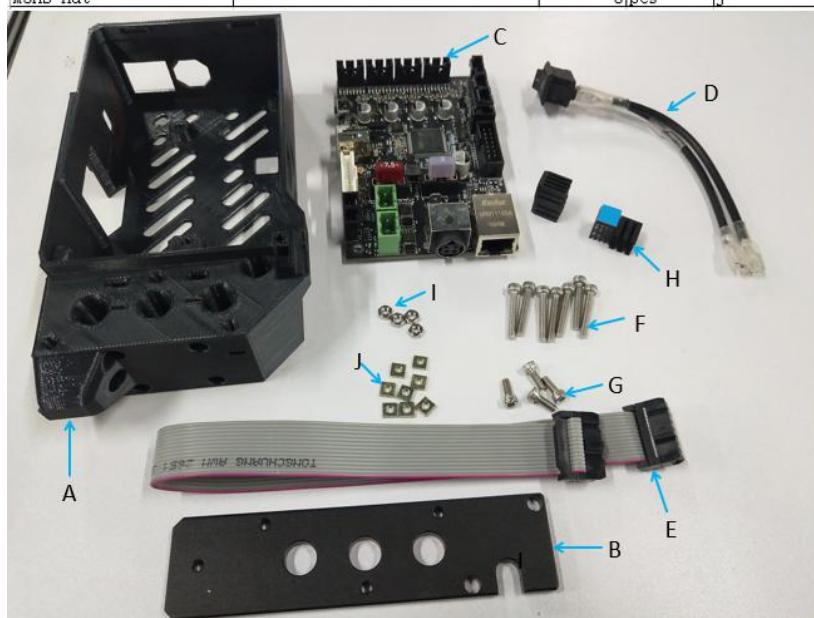

Figure 3.2.1
**Step 3-2-1:** As shown in Figure 3.2.1, prepare the materials and check whether the quantity of materials is correct, and prepare for the next installation.